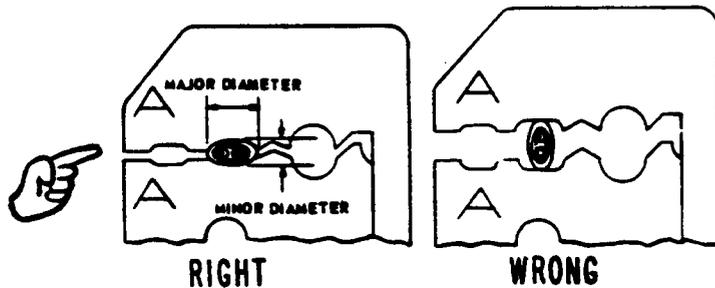

FIG. 10 ORIENTATION OF CABLE OR WIRE FOR CENTER OF "A" & "C" BLADE (PARS. 4.94 & 4.98)
- (a) Remove outer jacket and shield with center hole in blade. Trim any uncut strands of shielding with the diagonal cutters. It will be necessary that the cable to be stripped using this hole be properly oriented. See Figure 10 for proper orientation of cable.
**NOTE 1:** Prior to performing the above operation, flatten the cable as much as possible by bending it back and forth, several times, over the forefinger of one hand. This is necessary to insure proper orientation as shown in Figure 10. In order to insure a clean shield cut, make this
4.98 For processing 763A cable with "C" blades, refer to Figure 10 for proper orientation of cable in "C" blades.